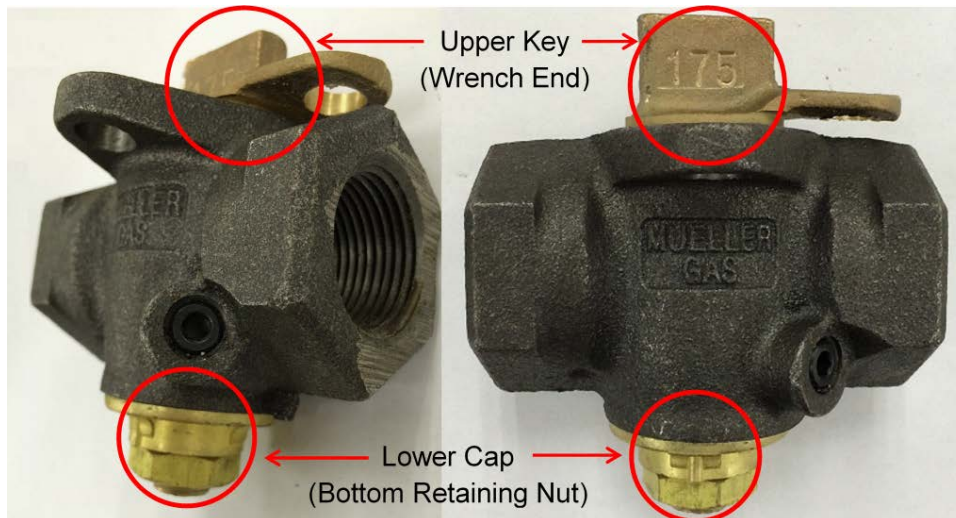

Figure 8: Upper Key and Lower Cap of Service Valve
- c. Observe both the upper key and lower cap (see *Figure 8*) are turning together.